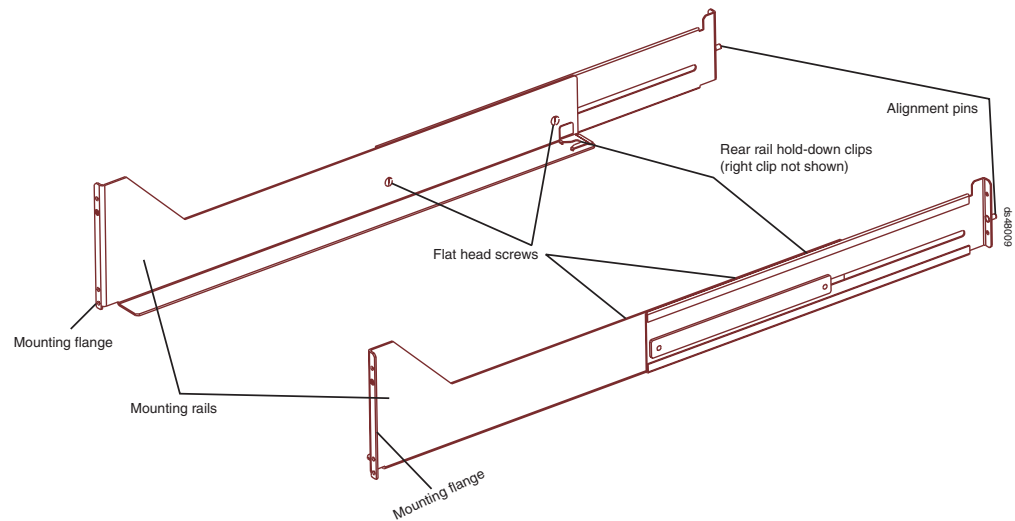

Figure 15. DS5100 and DS5300 support rail assembly
Figure 15 shows the support rail assembly for the DS5100 and DS5300.
Note: Refer to Figure 15 while performing these steps.
6. Starting with the left rail, use a medium flat-blade screwdriver to loosen the two flat-head rail adjustment screws. See Figure 15 on page 41.
Attention: When you slide the storage subsystem into the cabinet, verify that the back of the DS5100 and DS5300 is secured by the hold-down clips located at the back of each rail. With the M5 rail screws loosely threaded, you can make minor adjustments to the rails to ensure that the subsystem latches in the hold-down clips. The hold-down clips are shown in Figure 15 on page 41.